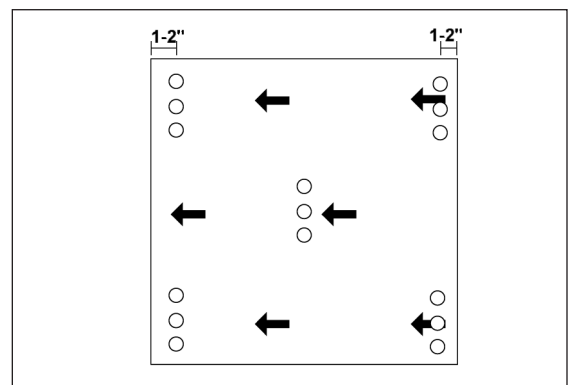

Figure 4: Recommended LokDots Application
- Apply LokDots adhesive tabs to the back of each tile in the pattern shown in Figure 4. We recommend starting approx 2" from the edge of the tile and moving down the tile perpendicular to the directional arrows. We recommend applying adhesive tabs in a series of 3 tabs in each corner, and in the middle for 24" tiles for an average of 15 per tile. (See Figure 4)